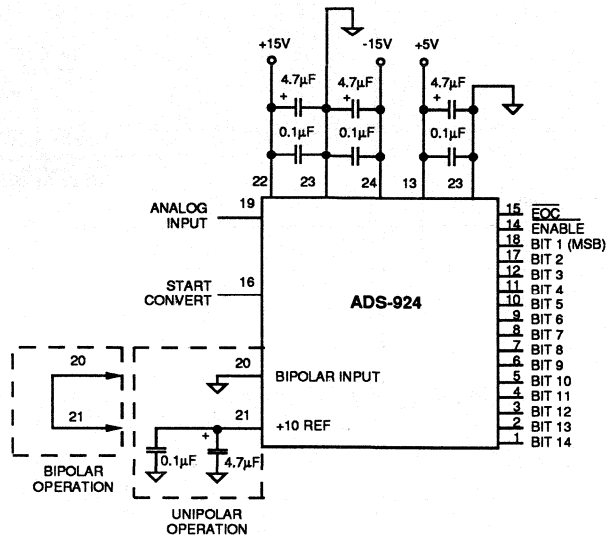

Figure 3. Typical Input Connections for the ADS-924
1. Applications which are unaffected by endpoint errors or remove them through software will use the typical connections shown in Figure 3. Remove system errors or adjust the small initial errors of the ADS-924 to zero using the optional external circuitry shown in Figure 4. The external adjustment circuit has no affect on the throughput rate.
1. Connect the converter per Figure 3, Figure 4, and Table 2 for the appropriate full-scale range (FSR). Apply a pulse of 200 nanoseconds minimum to the START CONVERT input (pin 16) at a rate of 250 KHz. This rate is chosen to reduce flicker if LED's are used on the outputs for calibration purposes.